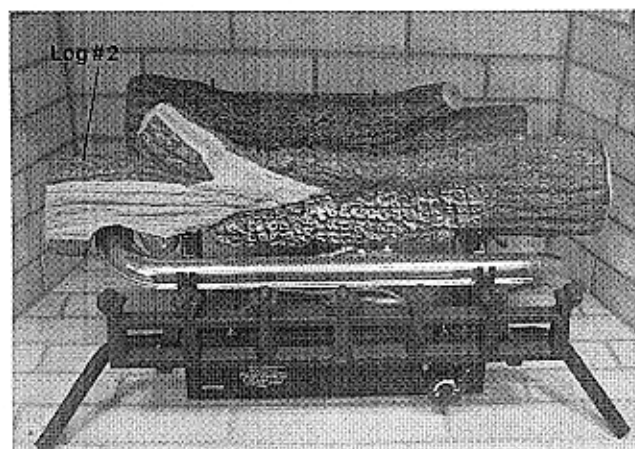

Figure 19 - Installing Log #2
3. Insert pins on the back of log #2 into the holes on the log bracket on the middle of grate base. and Tighten the screws (see Figure 19).